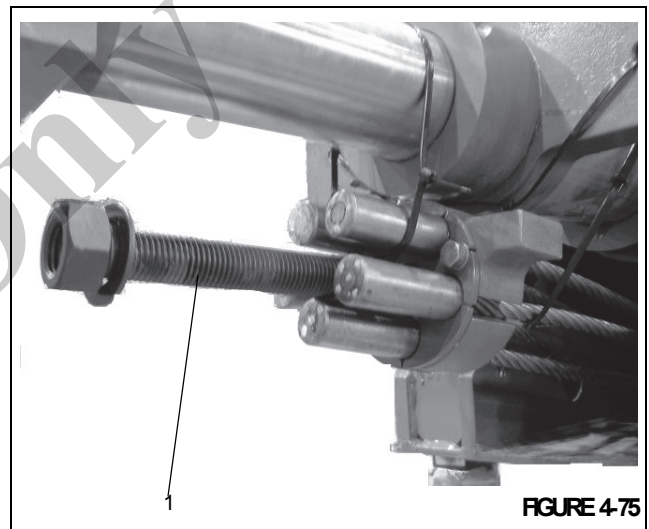

FIGURE 4-75
- 25. Check to make sure the long cable installation bolt (Figure 4-75, 1) is installed in the extend cable anchor assembly.